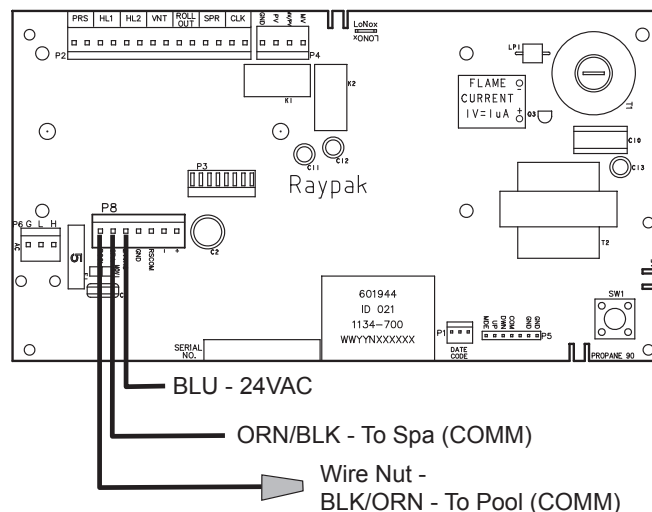

Figure 48. 2-Wire Remote Harness Installation on the P8 Connector of the Board
7. Install the "7-Pin Remote Interface Harness" to the P8 connector and turn power "ON" to the heater. See **Figure 48**.